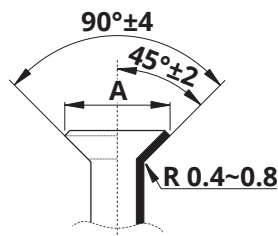

Fig. 6.6
- Turn the handle of the flaring tool clockwise until the pipe is fully flared. Flare the pipe in accordance with the dimensions in the table and **Fig. 6.6** below.